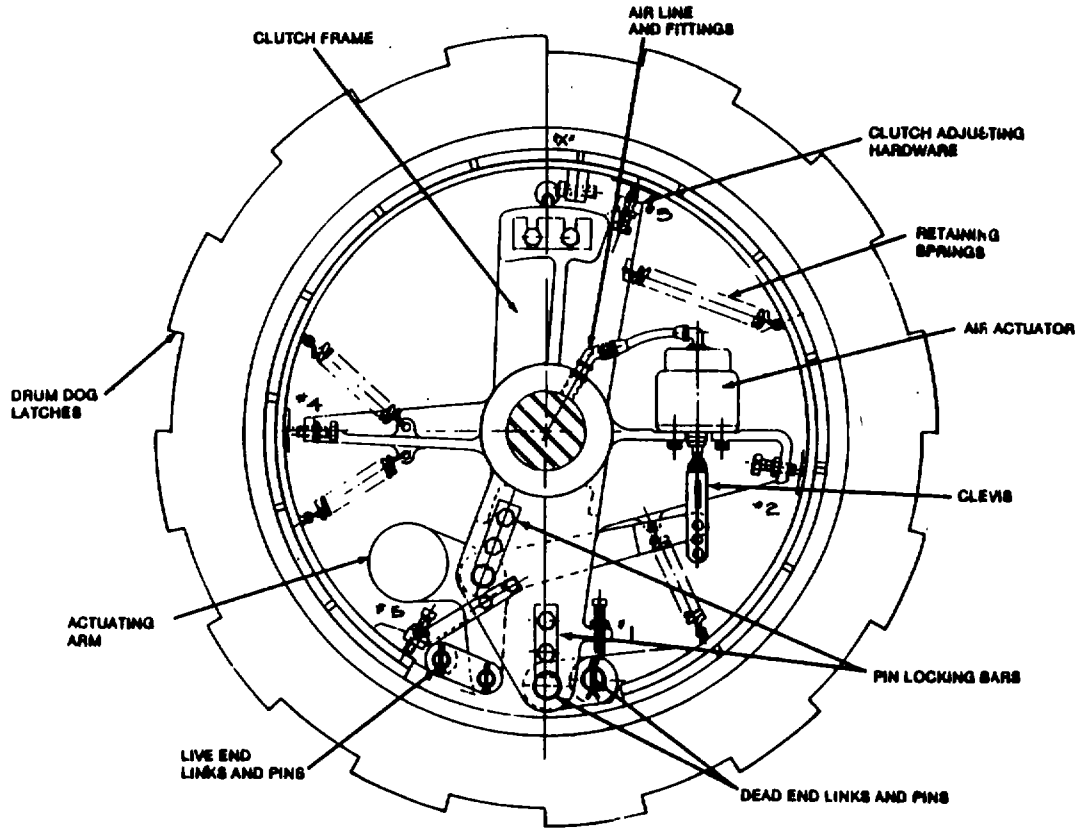

Figure 5-47. Drum Clutch.
- (1) Refer to Figure 5-47 and loosen the five jam nuts and band screws.
- (2) Remove cotter keys from band live and dead end line pins.
- (3) Remove link pins.
- (4) Remove four clutch band retaining springs.
- (5) Remove clutch band.